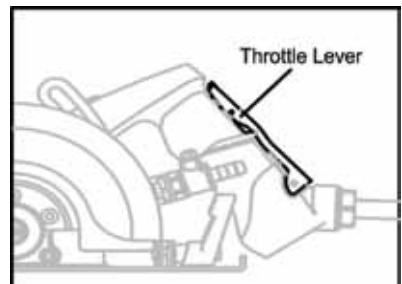

Figure 3
6. Depress the throttle lever (Part No. 3001-0071) varying the speed from very low to half speed, for a minute or two. (See Fig. 3)